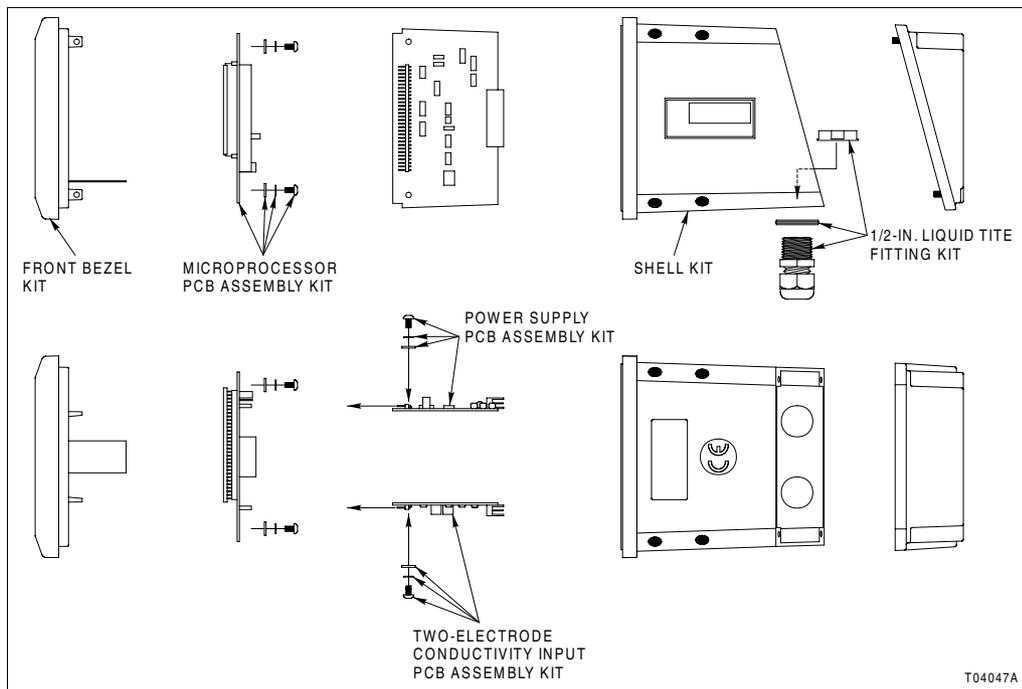

Figure PR30-1. Power Supply PCB Removal
1. Use the Phillips screwdriver to remove the two screws that retain the power supply PCB (Fig. PR30-1).